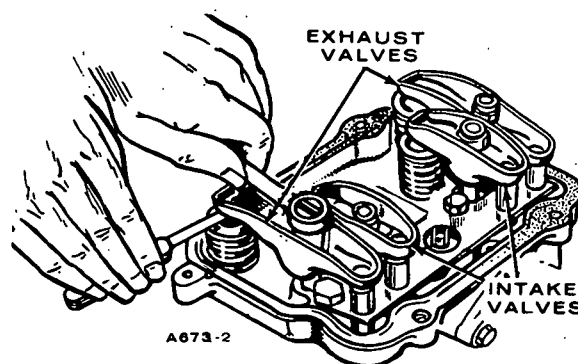

FIGURE 49. VALVE CLEARANCES
4. Using a feeler gauge, check the clearance between the rocker arm and the valve (see Figure 49). Increase or reduce the clearance until the proper gap is established adjusting with the lock nut which secures the rocker arm to the cylinder head. Correct valve clearance is in *DIMENSIONS AND CLEARANCES* section.